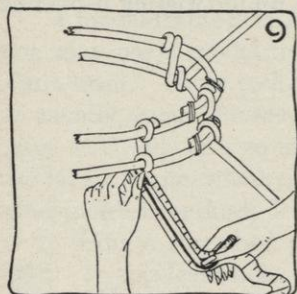

FIG. 9.
- a. Put the zero end of the tape measure on brace wire, (see Figure 9) exactly at headsize and measure $\frac{1}{8}$ inch more than the desired measurement you took after reading Section 5 a, b (page 110). The extra $\frac{1}{8}$ inch is taken up in twisting.
- c. Do this to all eight braces (see Figure 9).
- c. Buttonhole a stiff frame wire at the top of the headsize band and right through the edges of all the turned-down pieces of ribbon wire (see Figures 9 and 10, Job 1, page 5).